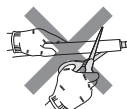

Fig. 1
- Pull out the drain cap at the back right of the indoor unit. (Fig. 1)
- Do not cut the drain hose of the unit. (Fig. 1)
- 1) Cut the copper pipe as straight as possible with a pipe cutter. (Fig. 1, 2)
Removal procedure (Fig. 1)